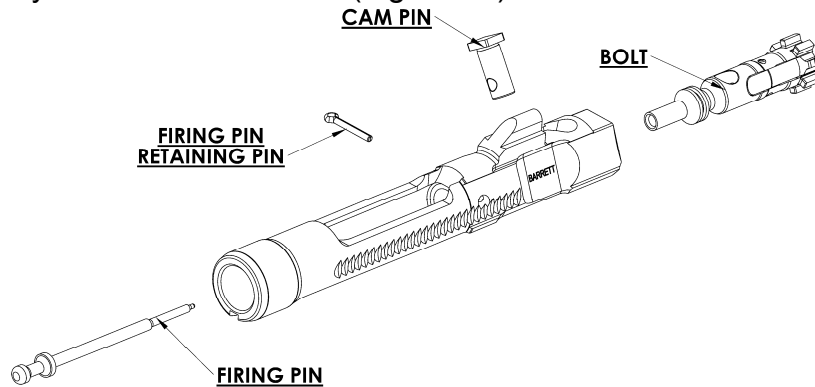

Figure 20. Bolt Carrier Assembly
1. Remove the firing pin retaining pin by pushing it through until it can be gripped and pulled out. Remove the firing pin by sliding it out of the rear of the bolt assembly. Remove the cam pin by lifting up. Pull the bolt assembly from the bolt carrier. (Figure 20).